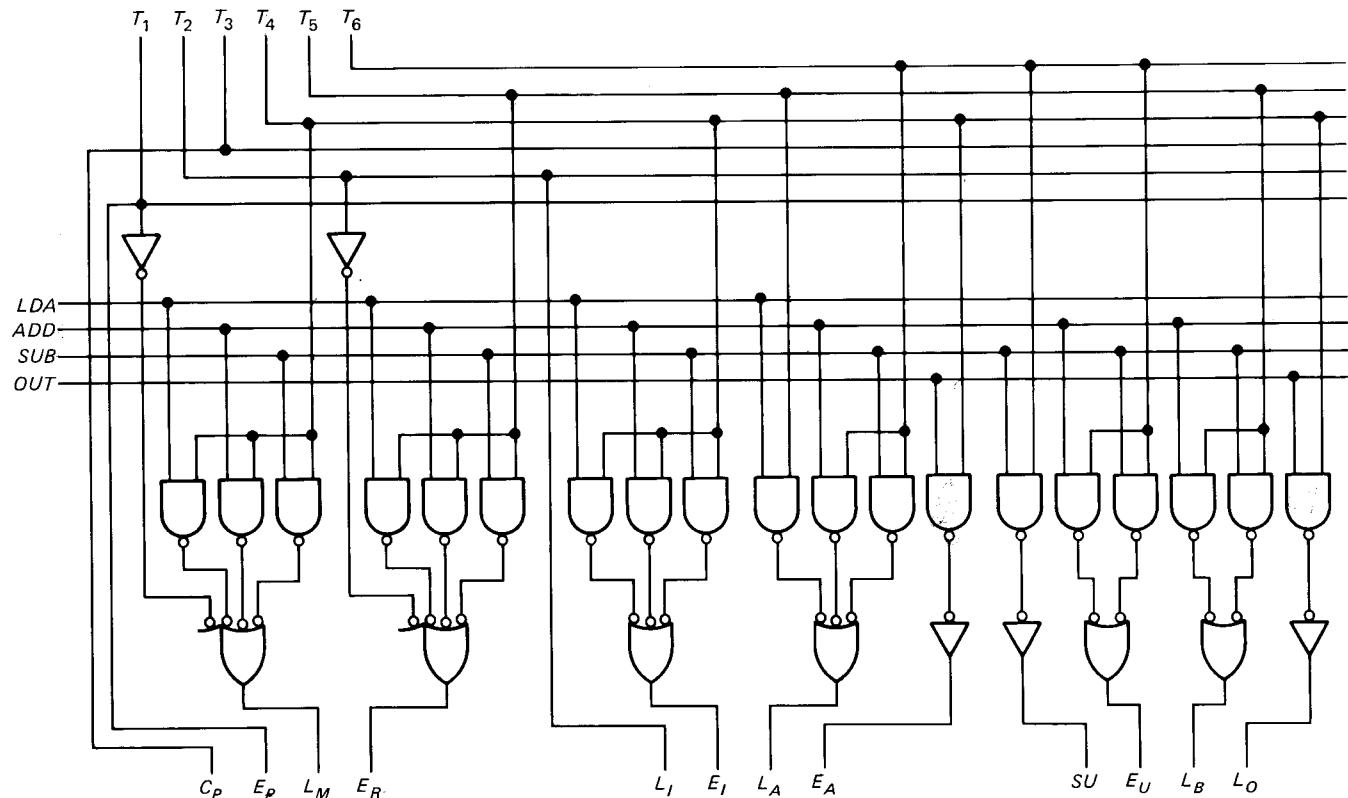

Fig. 3-35 Control matrix.
- 3-26.** Figure 3-35 shows the control matrix discussed in Example 3-3. Only one of the timing signals T_1 to T_6 is high at a time. Also, only one of the instructions, LDA to OUT , is high at a time. Which are the high outputs for each of the following conditions?